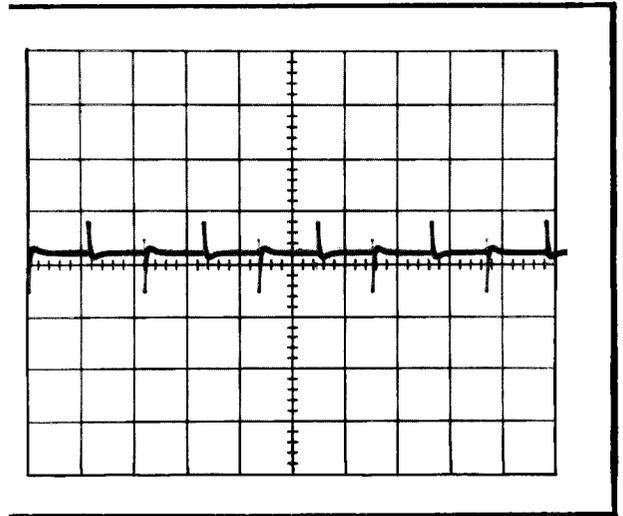

Fig. 5-5. Typical display obtained when Input Attenuators are adjusted for optimum differential balance.
justed, the waveform should appear as shown in Fig. 5-5. Disregard any spikes on the waveform.
g. ADJUST—R108E, R109E and R110E (see Fig. 5-1) for minimum amplitude as shown in Fig. 5-5, using Table 5-4 as a guide.